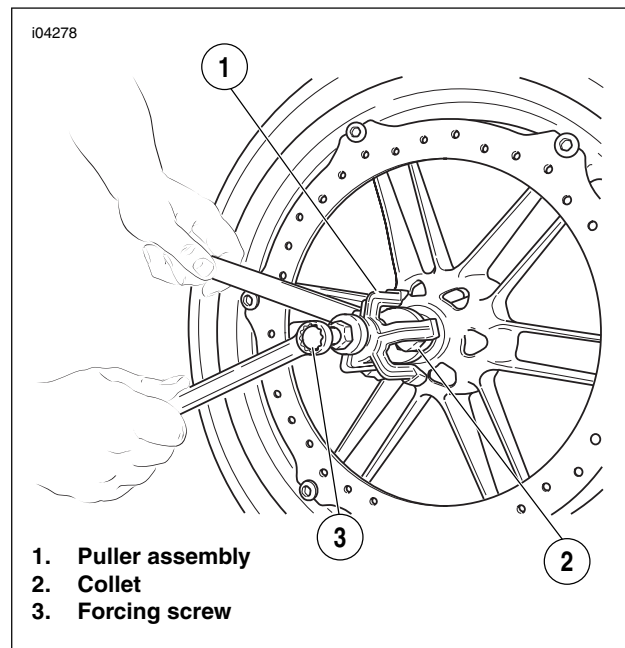

Figure 2-8. Expand the Collet
6. See Figure 2-8. Thread the puller assembly (1) into the collet (2).
7. Hold the collet (2), and turn the forcing screw (3) to expand the collet.